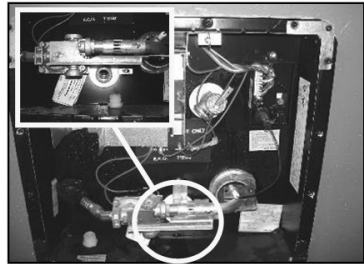

Fig 1: Water heater drain plug
4. Remove the drain plug from the water heater (**Fig 1**) (typically located outside the RV). **Do not remove the drain plug if the water heater is hot or under pressure. Release pressure & let it cool off.**